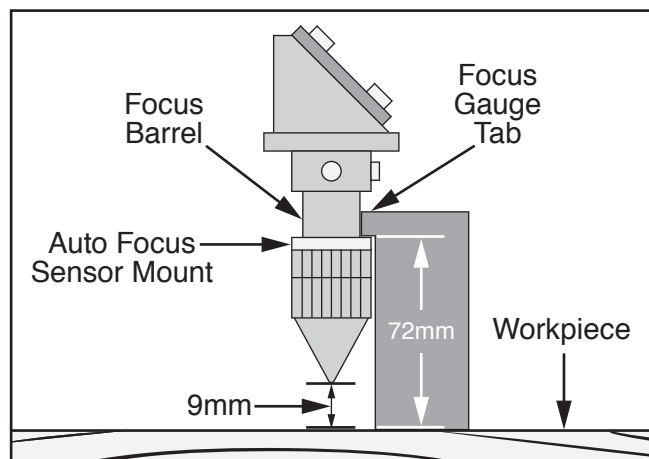

Figure 46. Focus gauge resting on workpiece and auto focus sensor mount.
8. Place bottom of focus gauge on workpiece, and raise or lower table using left and right arrow nav buttons (← and →) on control panel until tab on focus gauge rests on top of auto focus sensor mount (see **Figure 46**).